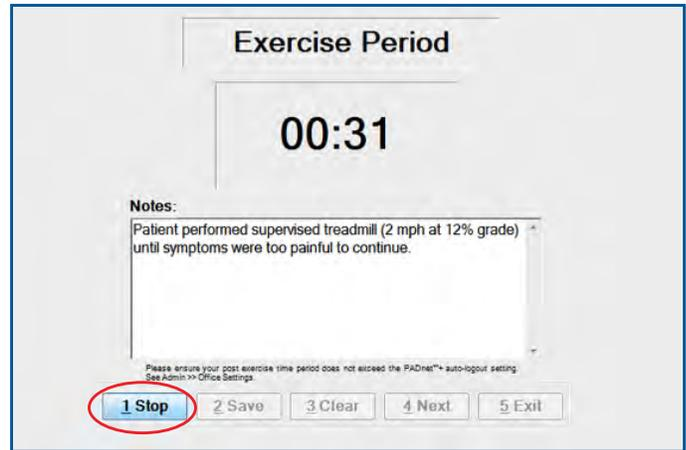

FIGURE 1.31 - Exercise Period - “Stop” Button
40. Under “Notes”, record the treadmill speed (2 mph), grade (12%) and any reported symptoms (Figure 1.31).
41. At the onset of symptoms, click “Stop” (“Start” button changes to “Stop”) (Figure 1.31).